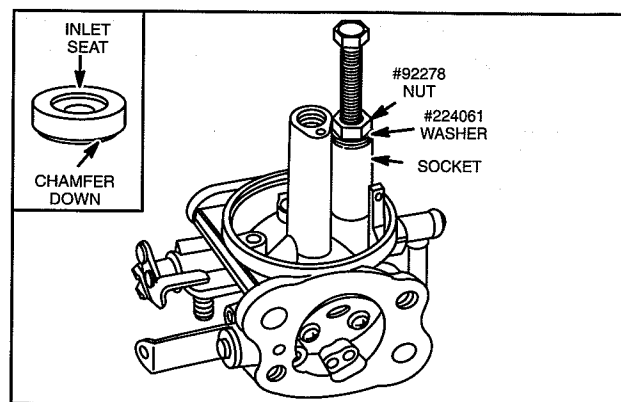

Fig. 32 – Remove Inlet Seat
5. Continue turning until seat body is removed, Fig. 32.